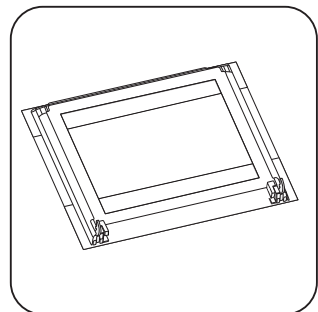

Figure 25: Place door on soft surface
4. Put the door on a soft cloth on a stable surface (Figure 25).